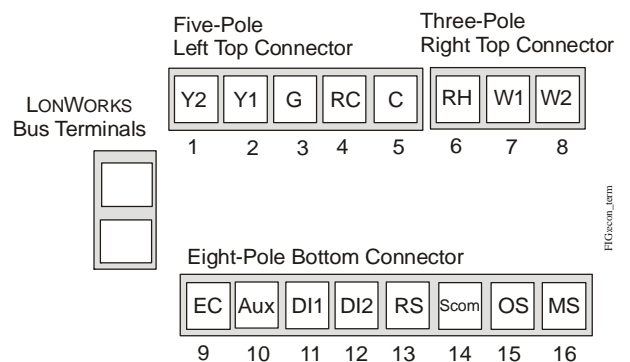
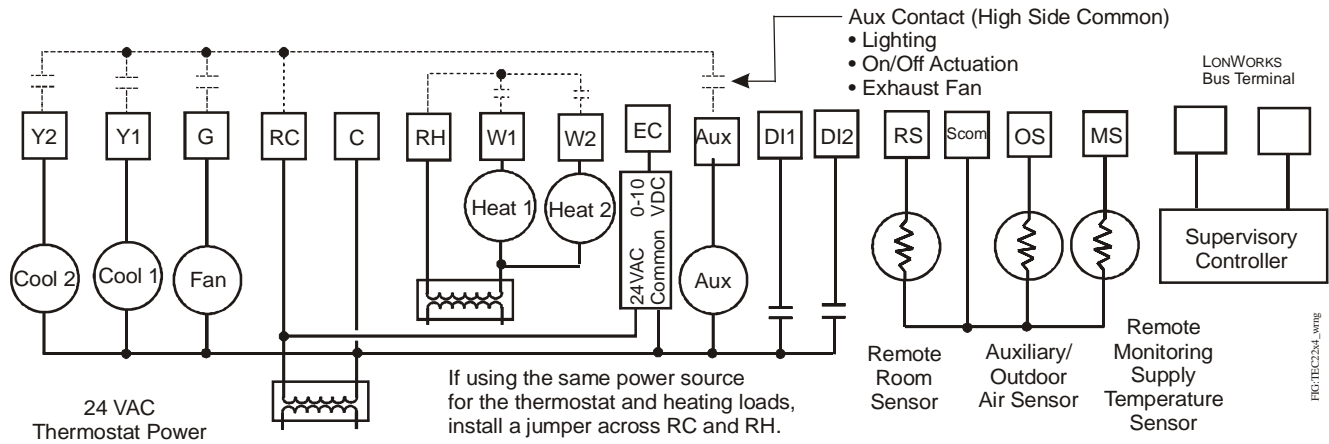

Figure 5: Terminal Blocks
Figure 6: Wiring the TEC22x4-4 and TEC22x4-4+PIR Thermostat Controllers
- Strip the ends of each wire 1/4 in. (6 mm) and connect them to the appropriate screw terminals as indicated in Table 1, Figure 5, and Figure 6.
- Reattach the LONWORKS communication wires to the LON terminal block. See Figure 5.
Table 1: Terminal Identification (See Figure 5.)
1. Connect the LONWORKS network wires to the LONWORKS network terminal block on the thermostat controller (Figure 5, Figure 6, and Figure 7).